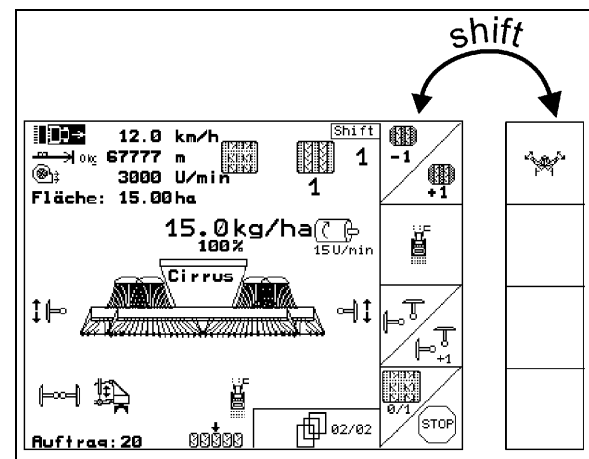

Fig. 10
- When the Shift-key is actuated, further function fields appear (Fig. 10) and the assignment of the function keys is altered accordingly.